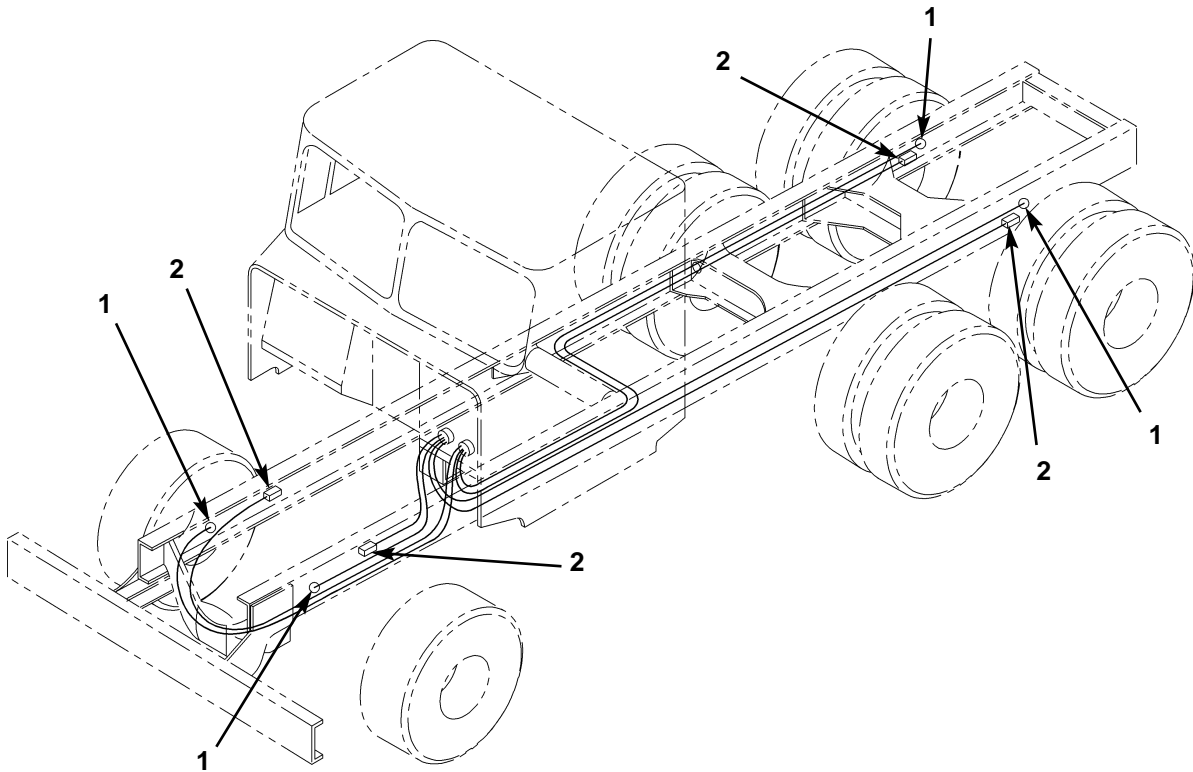

Figure 84. Routing Speed Sensor and Modulator Harnesses.
33. Route ends of speed sensor harness (figure 84, item 1) and modulator harness (figure 84, item 2) to left-front, right-front, left-rear, and right-rear locations as depicted in figure 84 below.
34. Secure sensor harness (figure 84, item 1) and modulator harness (figure 84, item 2) with tie straps during installation along chassis frame.